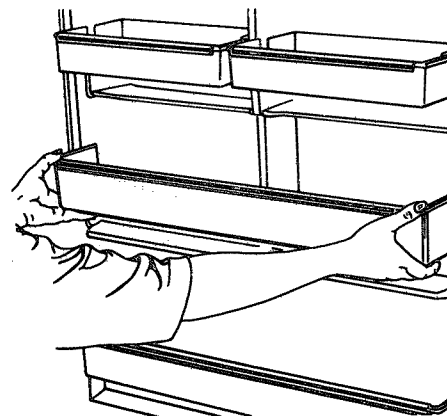

Figure 33
- Then pull out to remove. See Figure 33.